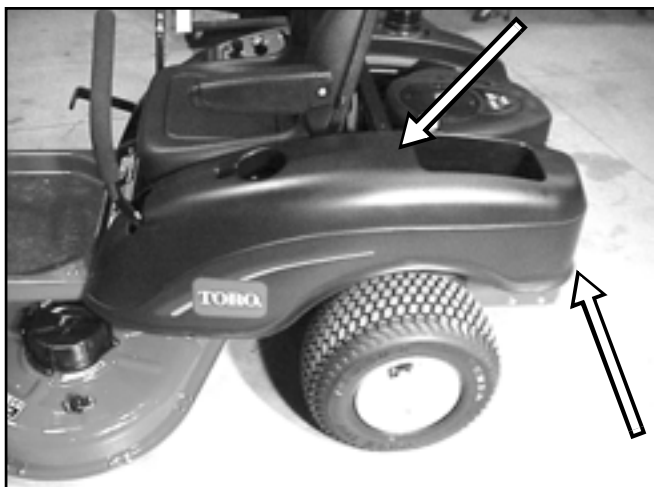

Figure 11
1. Remove the three fasteners holding the rear portion of the left side panel. Two fasteners are located in the middle, under the side panel connecting the panel to the rear support bracket. The third fastener is located at the rear of the panel (Figure 11).